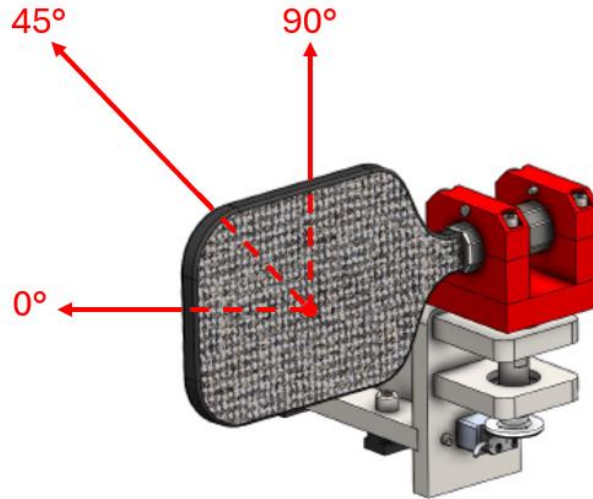

Figure 2
- c. Orient paddle such that the incoming ball impacts the paddle face with a 30 degree incident angle (refer to figure 2)